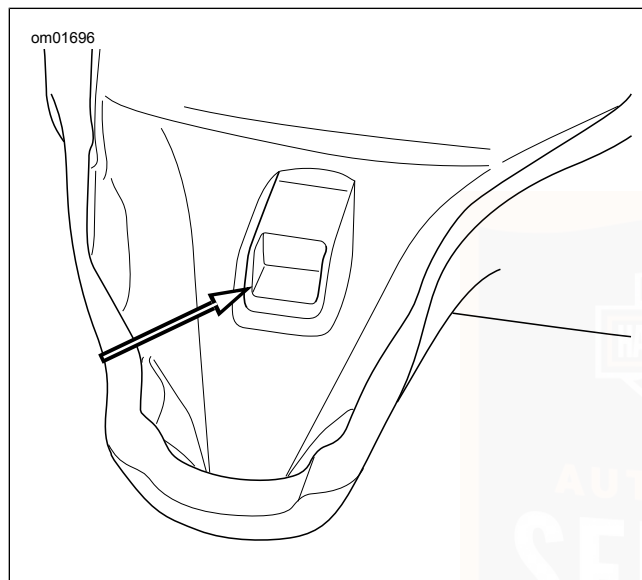

Figure 103. Seat Mounting Slot
1. See Figure 103. Firmly push front of seat downward and forward until slot engages tongue.
1. See Figure 103. Place seat on frame backbone.